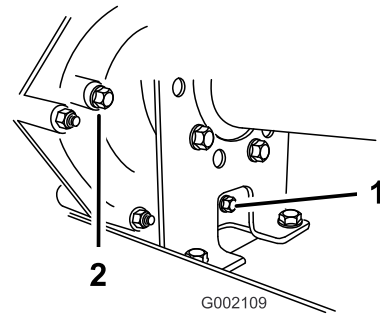
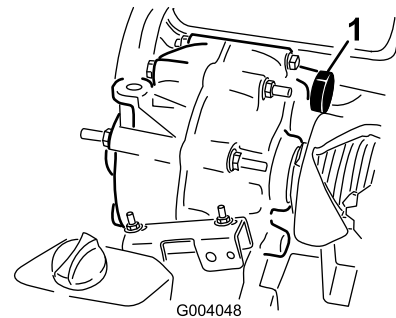

Figure 42
Figure 43
2. Remove the drain plug from the right side of the reservoir (Figure 42) and let the fluid flow into a drain pan. Install and tighten the plug when the fluid stops draining.
3. Fill the reservoir (Figure 43) with approximately 1-1/2 qt. (1.4 liters) of SAE 10W30 motor oil or until the oil level is at the bottom of the level indicator hole (Figure 42).